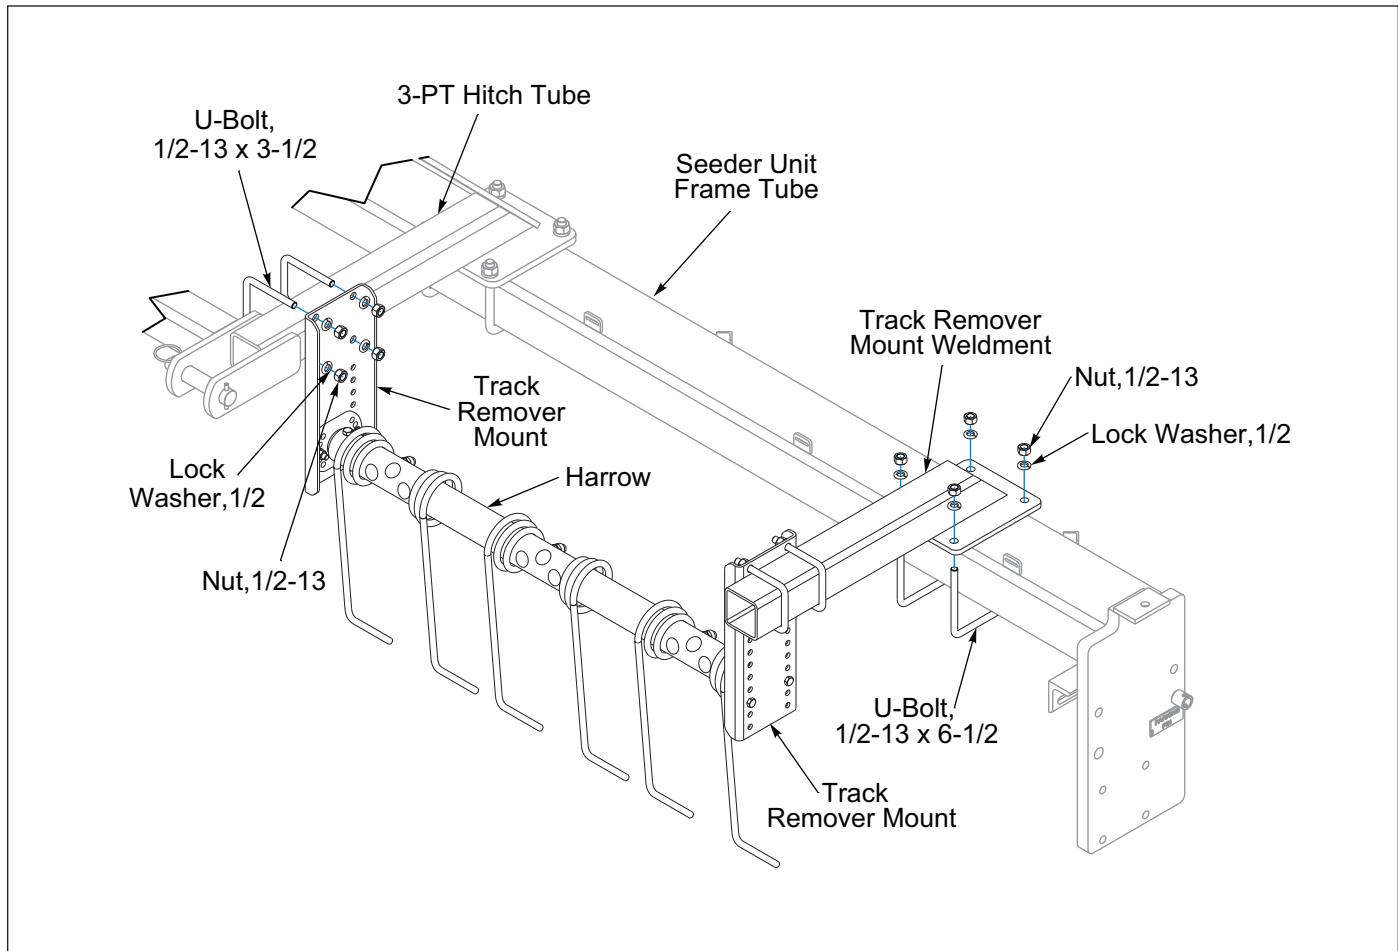

Figure 2-29: Wing Harrow Installation
1. Set the Track Remover Mount Weldment on top of the Seeder Unit Frame Tube and attach with 1/2-13 x 6-1/2 U-Bolts, Lock Washers, and Nuts. **Do Not** Tighten at this time. **See Figure 2-29.**